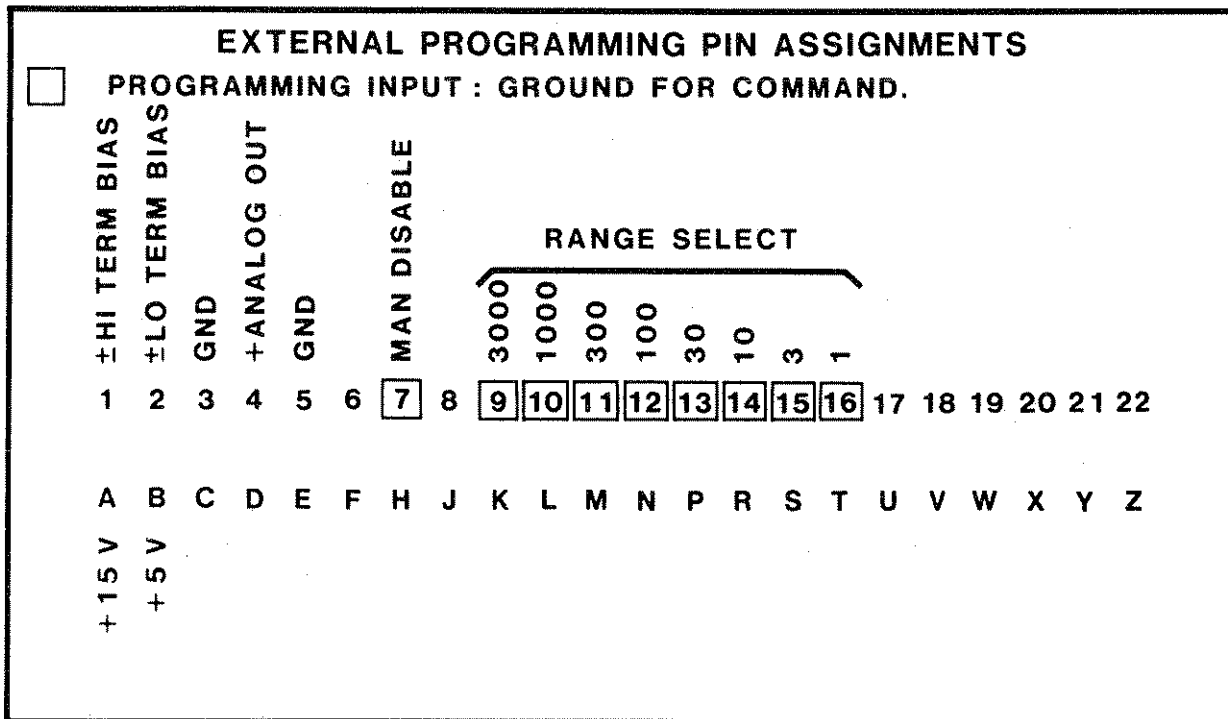

Figure 4-4. External Connections
Rear-panel connector P102 makes available +15 V and +5 V for use with BEC options; it also provides an analog output for a recorder. In addition, pins are available for the following purposes: (1) for the connection of external voltage supplies to bias the HI and/or LO terminal; (2) for remote ranging. See Table 4-2 and Figure 4-4 for pin locations and descriptions.